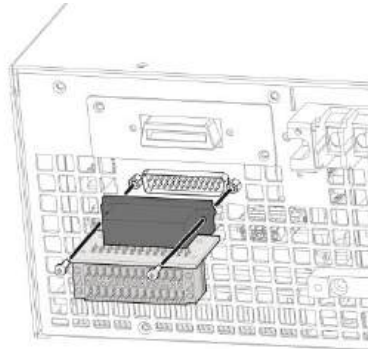

Figure 1-4 Installing Analog Terminal Docking Board
2. Figure 1-4 shows the docking board of the Analog terminal on the rear panel. The installation procedure is shown in the image below.